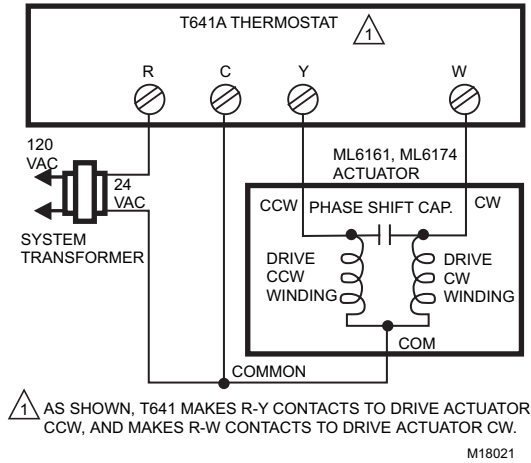

Fig. 16. T641A controlling ML6161 or M6174 Actuator.
4. Run the connecting wire through the conduit connector, strip the wire ends (if necessary) and connect to the CW, COM and CCW terminals using Figures 11 through 14, Figures 16 through 20, or the control manufacturer instructions.
The T641 is a mercury bulb floating-control type thermostat designed for use with the seven-minute model on pressure-dependent systems (see Figures 16 and 17).